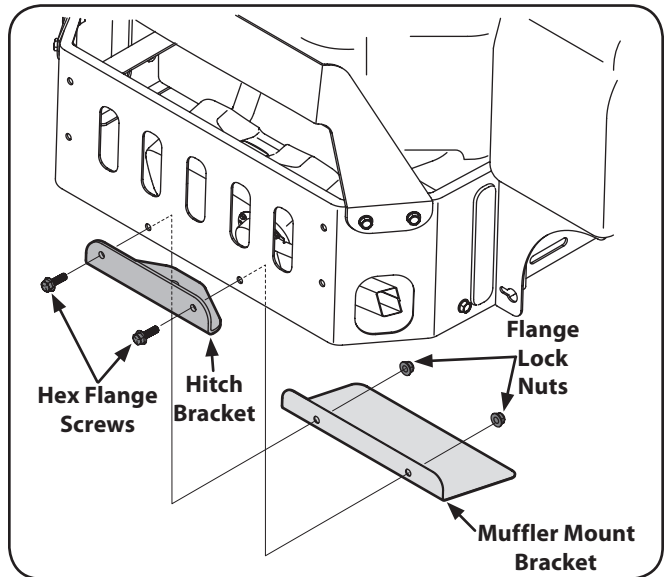

Figure 3-6
- Remove the hex flange screws and flange lock nuts that secure the hitch bracket and muffler mount bracket to the bumper bracket. See Fig. 3-6.